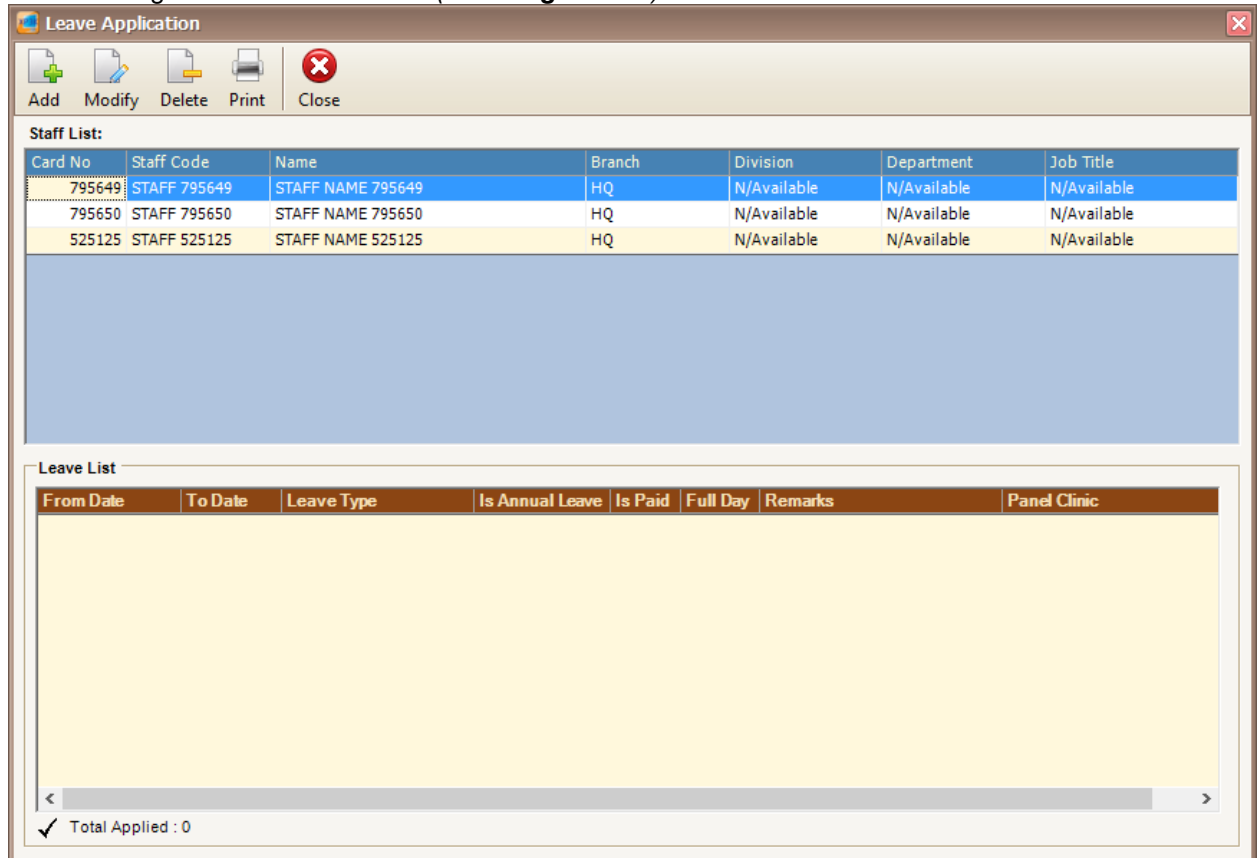

Figure 237 - Leave Application
2. The following window will be shown (Refer **Figure 237**).